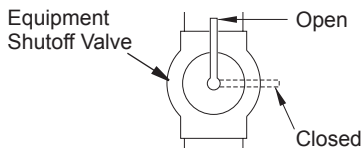

Figure 15 - Equipment Shutoff Valve
1. Close equipment shutoff valve (see Figure 15).
1. Open equipment shutoff valve (see Figure 15).
2. Close equipment shutoff valve (see Figure 15, page 13).